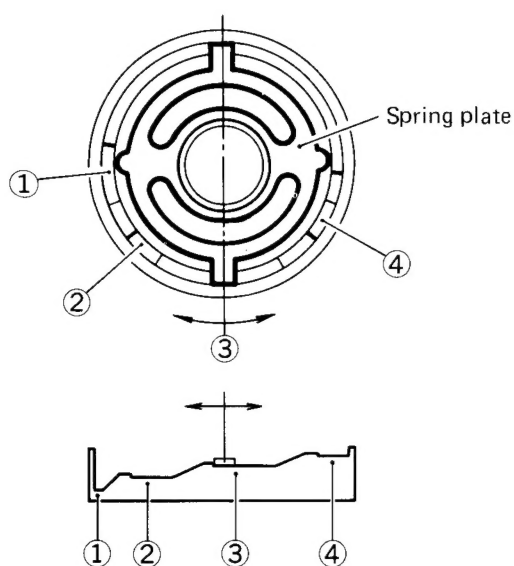

Fig. 19
- 2) When the playback torque is not in this range, check whether or not rubber and/or rotary members have dirt and/or oil on them. After that, if the torque is still low, lift up the spring plate shown in Fig. 19 to move it to position ③, while if the torque is high, move it to position ① in the same manner.